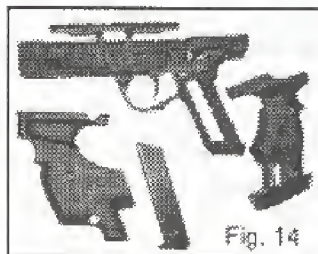

Fig. 14
2. With the pistol completely unloaded, remove the grip by unscrewing the grip screws on both sides of the grip. With the grip screws completely removed, the grip can be removed from the frame. (See Fig: 14)